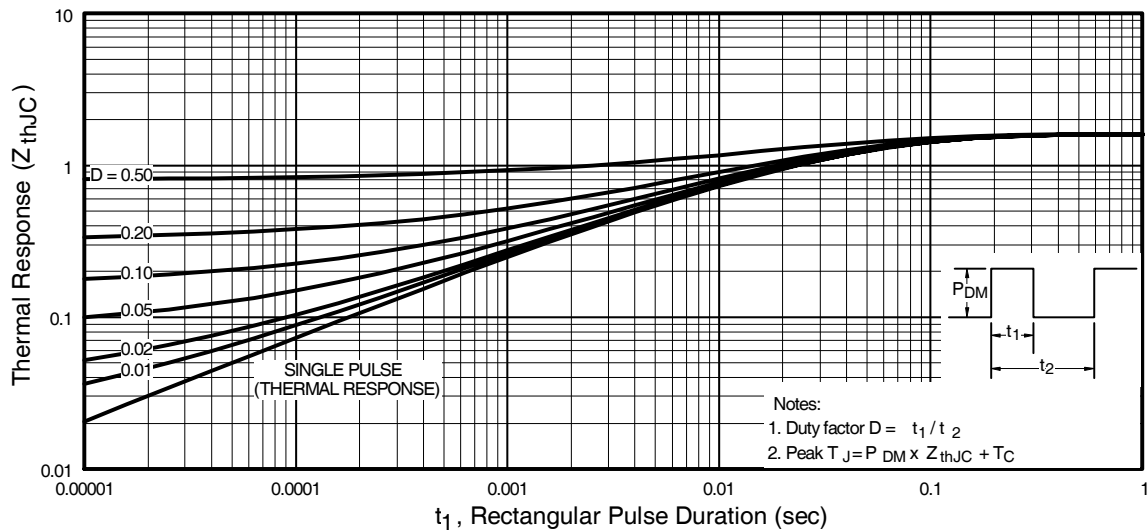

Fig 11. Maximum Effective Transient Thermal Impedance, Junction-to-Case
① Repetitive rating; pulse width limited by max. junction temperature. (See fig. 11)
② Starting $T_J = 25^\circ\text{C}$, $L = 4.9\text{mH}$